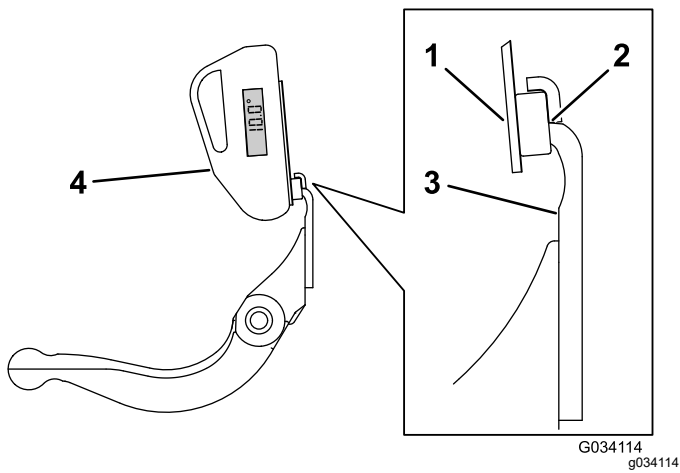

Figure 29
3. Place the angle-indicator mount on the edge of the bedknife so that the edge of the magnet is mated with the edge of the bedknife (Figure 29).
- Place the angle indicator on the mount as shown in Figure 29.